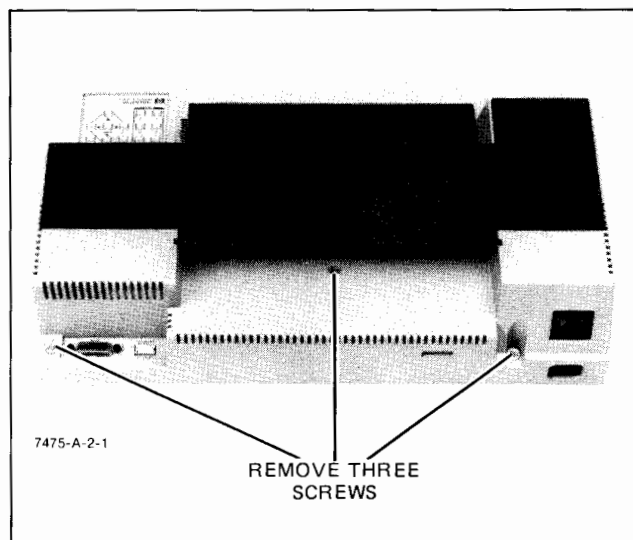

Figure 6-7. Top Case Removal
- a. Set the LINE switch of OFF (O) and disconnect the power cord and interface cable.
- b. Remove the screws at the rear of the plotter. See Figure 6-7.